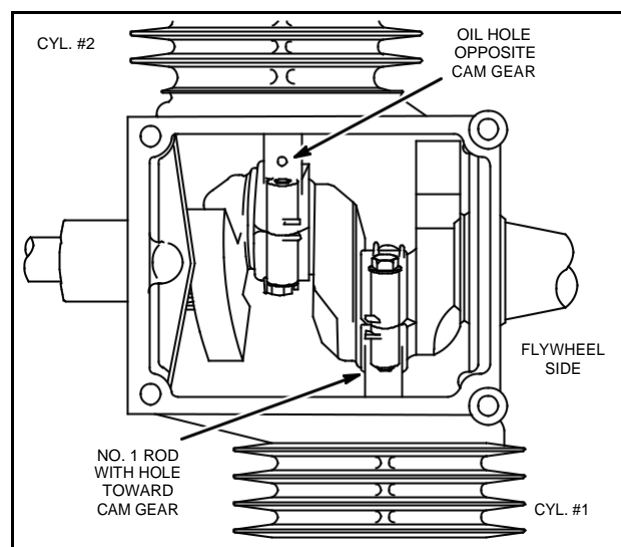

Fig. 16 – Installing Connecting Rods – Models 400000-420000
**NOTE: ENGINE MODELS 400000 – 420000:** With piston and connecting rod assemblies installed, the oil hole in the #1 connecting rod must face toward the cam gear. The oil hole in the #2 connecting rod must face away from the cam gear, Fig. 16.